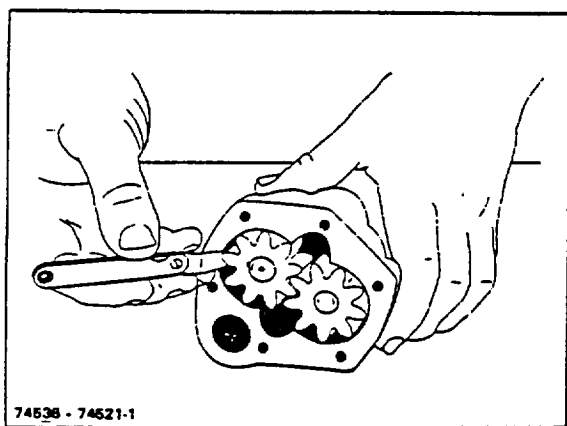

Figure 12-3. Checking Oil Pump Gear Clearance in Pump Body
4. Examine the gears and pump body for any sign of wear indicating lack of clearance. The gears should have from .001" to .003" clearance in the chamber and should make no contact with the walls (Figure 12-3).